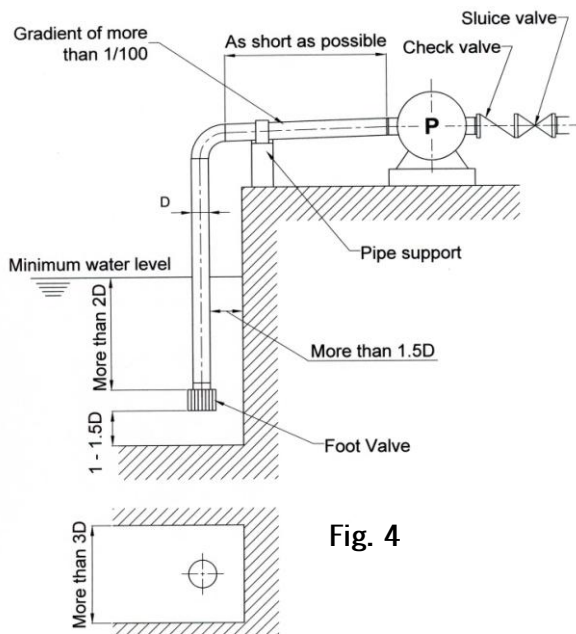

Fig. 4
- (1) Install a foot valve at the end of suction pipe and connect the pipe as shown in Fig. 4. The foot valve must be ordered separately.
- (2) Connect horizontal portion of pipe with a gradient of more than 1/100 toward pump, as shown in Fig. 4.
- (3) Ensure that flange does not permit air intake.